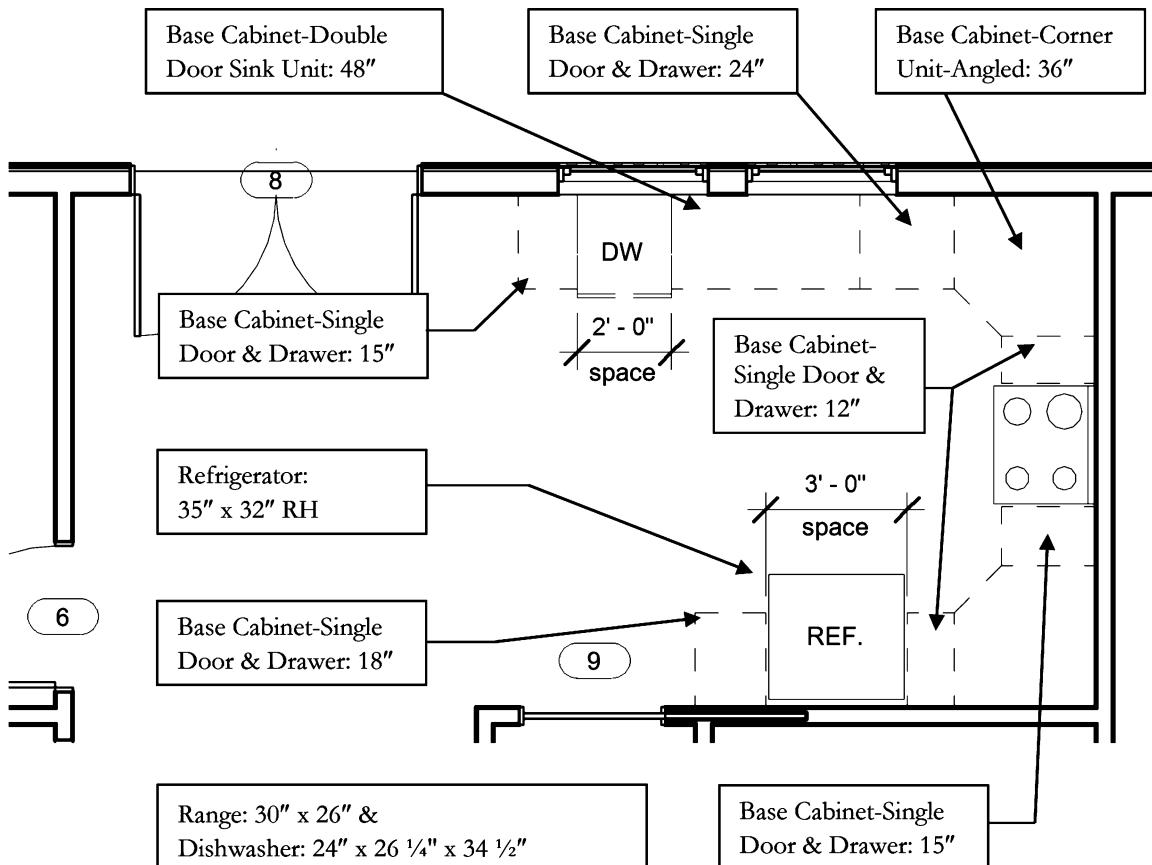

FIGURE 12-2.1 First Floor Plan View: base cabinets added to kitchen
3. With the **Component** tool selected, place the families, cabinets **and appliances**, as shown in Figure 12-2.1; use *Snaps* for accuracy. Remember that the cursor is at the back of the cabinet when placing the component.